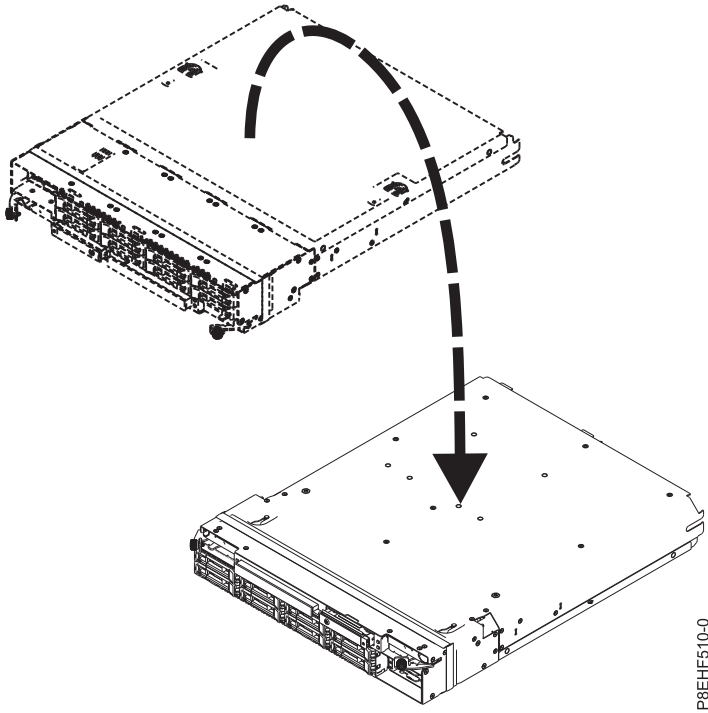

Figure 13. Turning the RAID assembly over
4. Turn the RAID assembly over. See Figure 13 on page 14.